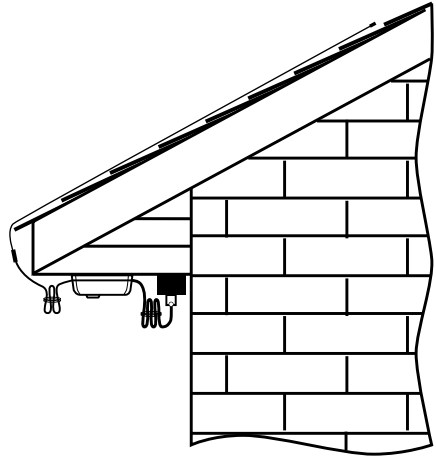

Fig. 5
1. The RX1200 main housing should be mounted under the eave or soffit, or equivalent location protected from the weather. See Fig. 5.
2. Splice connection and probe lead should be looped and fixed near controller box. See Fig. 5.